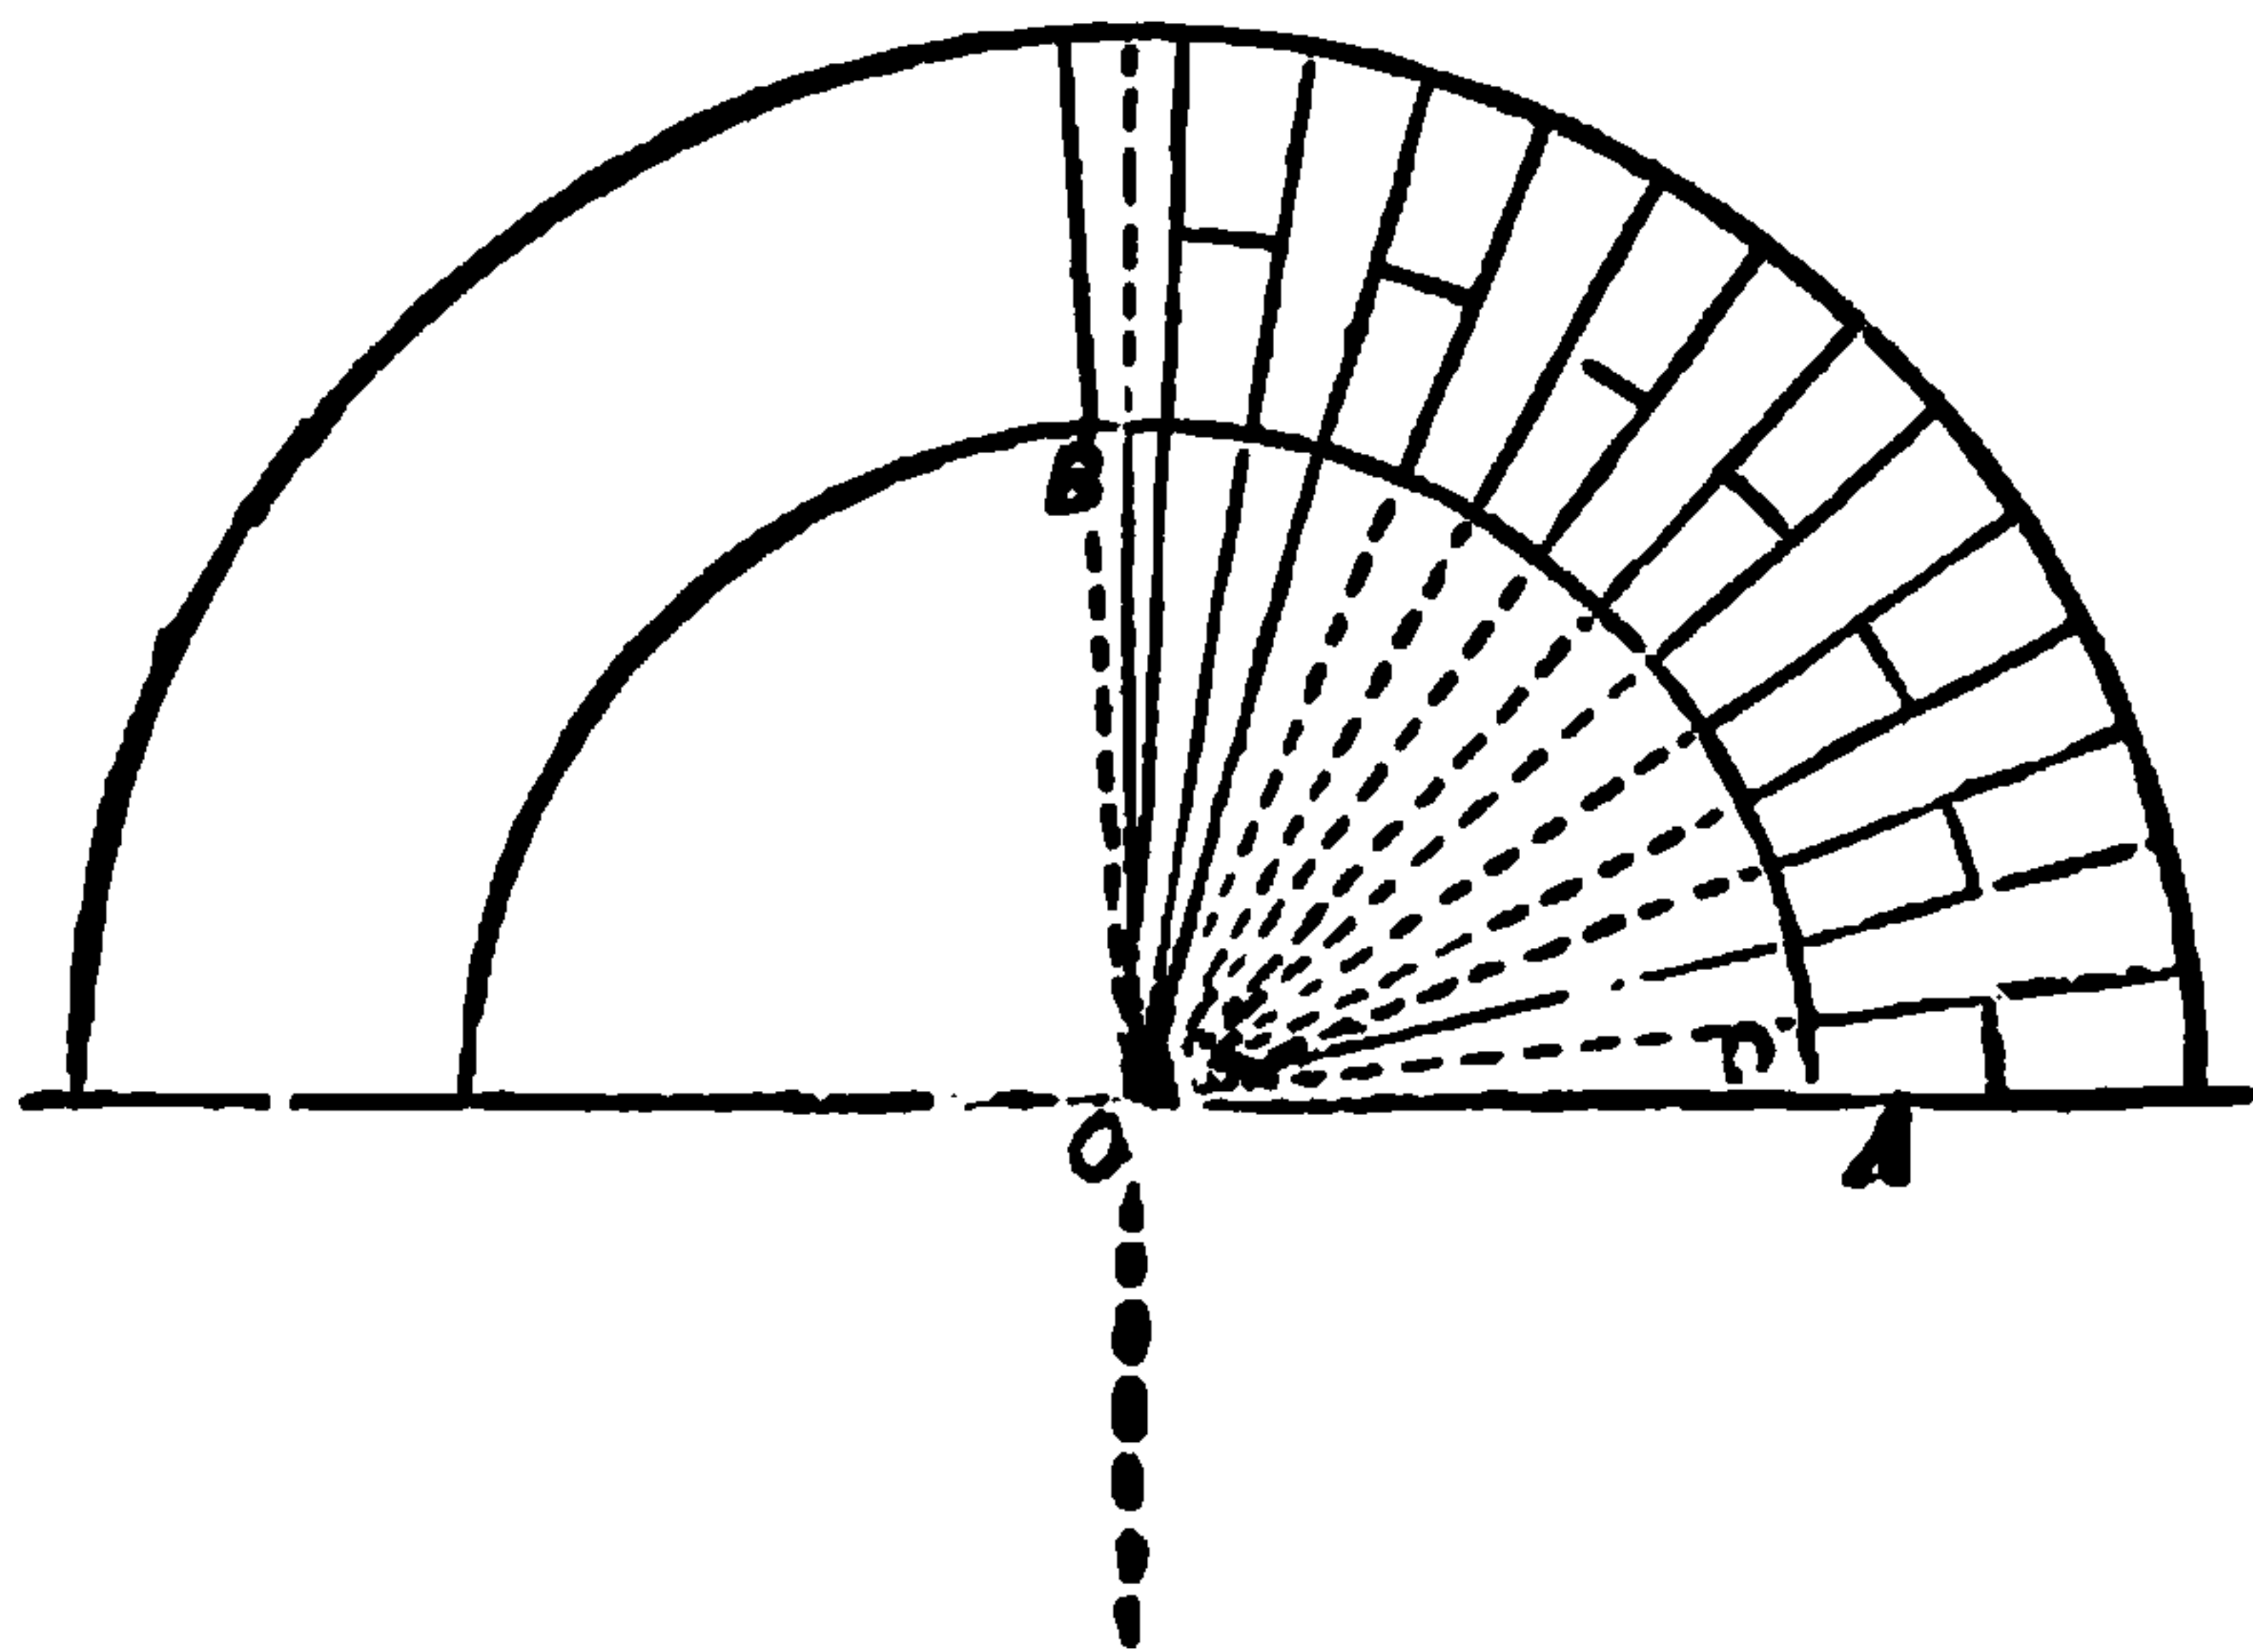

Fig. 22.
*The Semi-circular* (Fig. 22).—In drawing this arch, it is only necessary to place one point of the
Fig. 23 is another kind of semicircular arch with a Gothic head. To draw the outside portion of this arch it is necessary to draw the line or chord A B, bisect it at D, draw a line with the setsquare from D, at right angles with A B, to any point C, and upon this line the centre is taken to describe the outside curve of the arch, according to the haunch required; and the *inner* ring must be divided in the same manner as the *outer* ring of Fig. 22; but the bevels for the tops must be